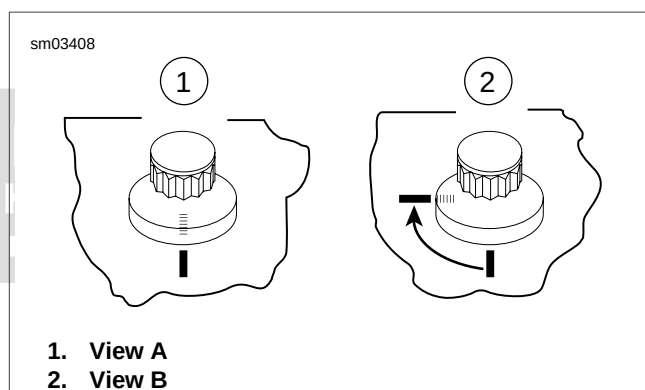

Figure 3-64. Tightening Head Bolts
- c. See Figure 3-64. Mark cylinder head and head bolt shoulder with a line as shown (View A).